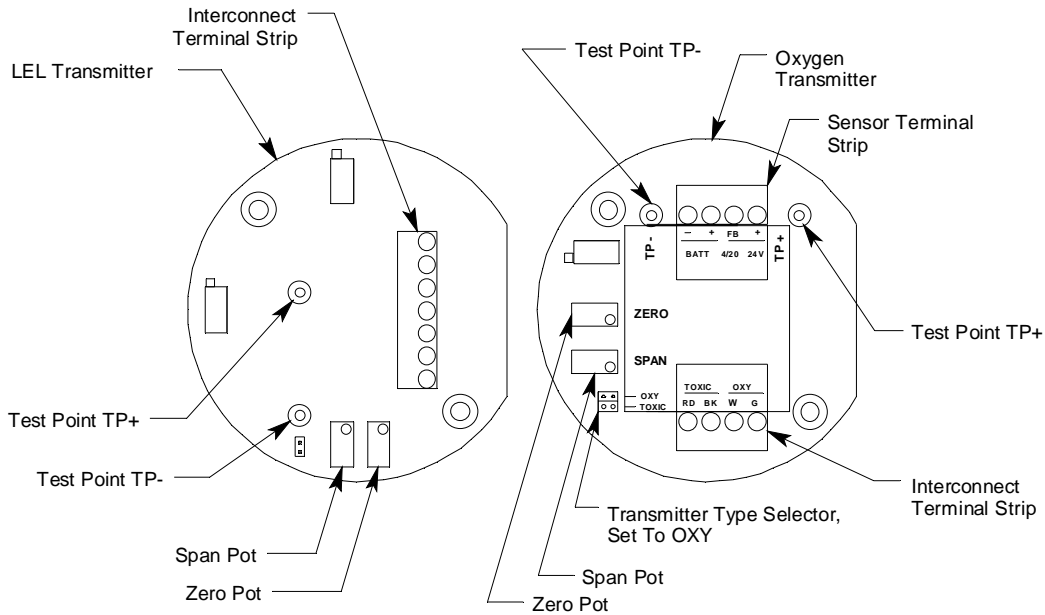

Figure 3: LEL & Oxygen Transmitters
3. Slightly loosen the screw that secures one of the mounting feet to the housing, then rotate the mounting foot 180 degrees (see Figure 3).